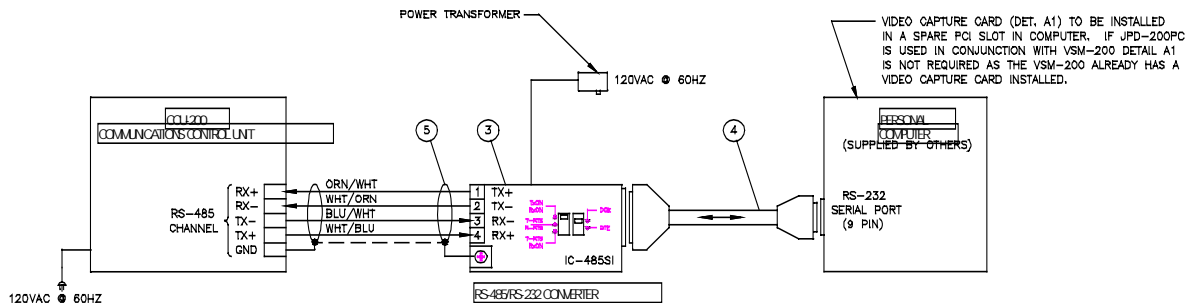

Figure 1-1. INSTALLATION BLOCK DIAGRAM
- 2) Connect COM1 (RS-232 serial port) on the PC to the RS-232 to RS-485 converter. Connect the RS-232 to RS-485 adapter to one of the RS-485 ports (CH1 through CH8) on the CCU-200. Refer to Figure 1-1.